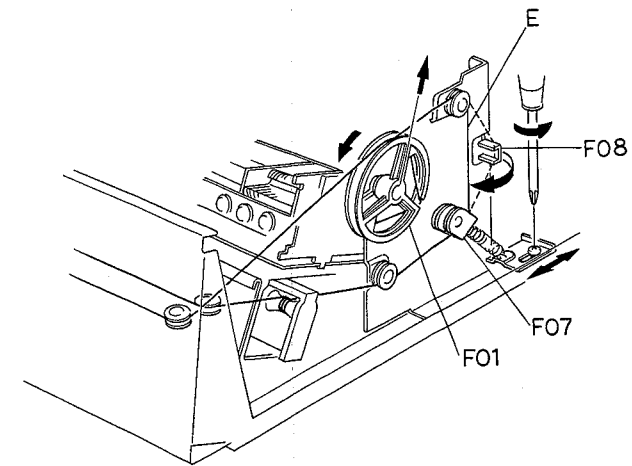

Fig. 5.1.6
(5) Refer to Fig. 5.1.6. After removing the thread from F08 to place the thread in "E" position, loosen a screw and move the base plate of F07 fully toward the front panel side, and then tighten the screw temporarily. Turn ON the Power Switch, then depress the Automatic Scanning Switch. Motor starts to rotate, but the pointer does not move as the thread tension is weak.